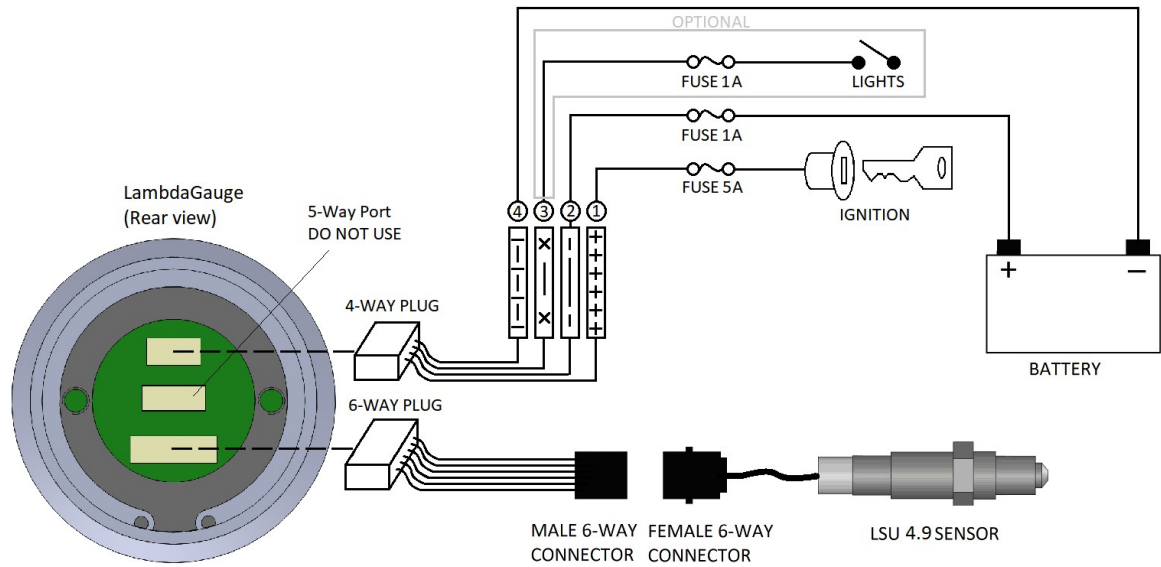

Figure 3 – Connection Schematic
- Run the power and sensor cables as shown in figure 3 – Ensure that the cables are kept away from the hot exhaust.
- Make the electrical connections as shown in figure 3. The 4 included splice connectors can be used. Solder connections are the most reliable and durable option.
Figure 3 below shows the LambdaGauge® connected to the wideband sensor and vehicle.